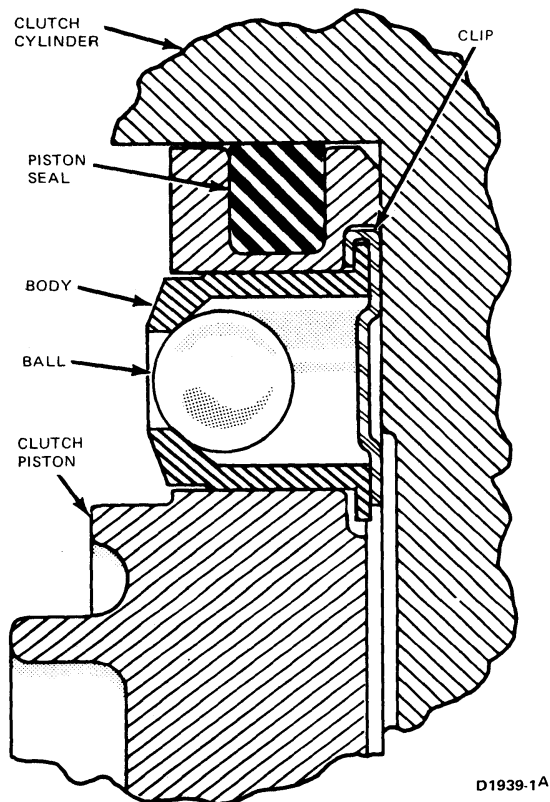

FIG. 15 Clutch Piston Check Valve
2. Check the fluid passage in the clutch cylinder for obstructions. Clean out all fluid passages. Inspect the clutch piston for scores and replace if necessary. Inspect the piston check ball for freedom of movement and proper seating (Fig. 15).